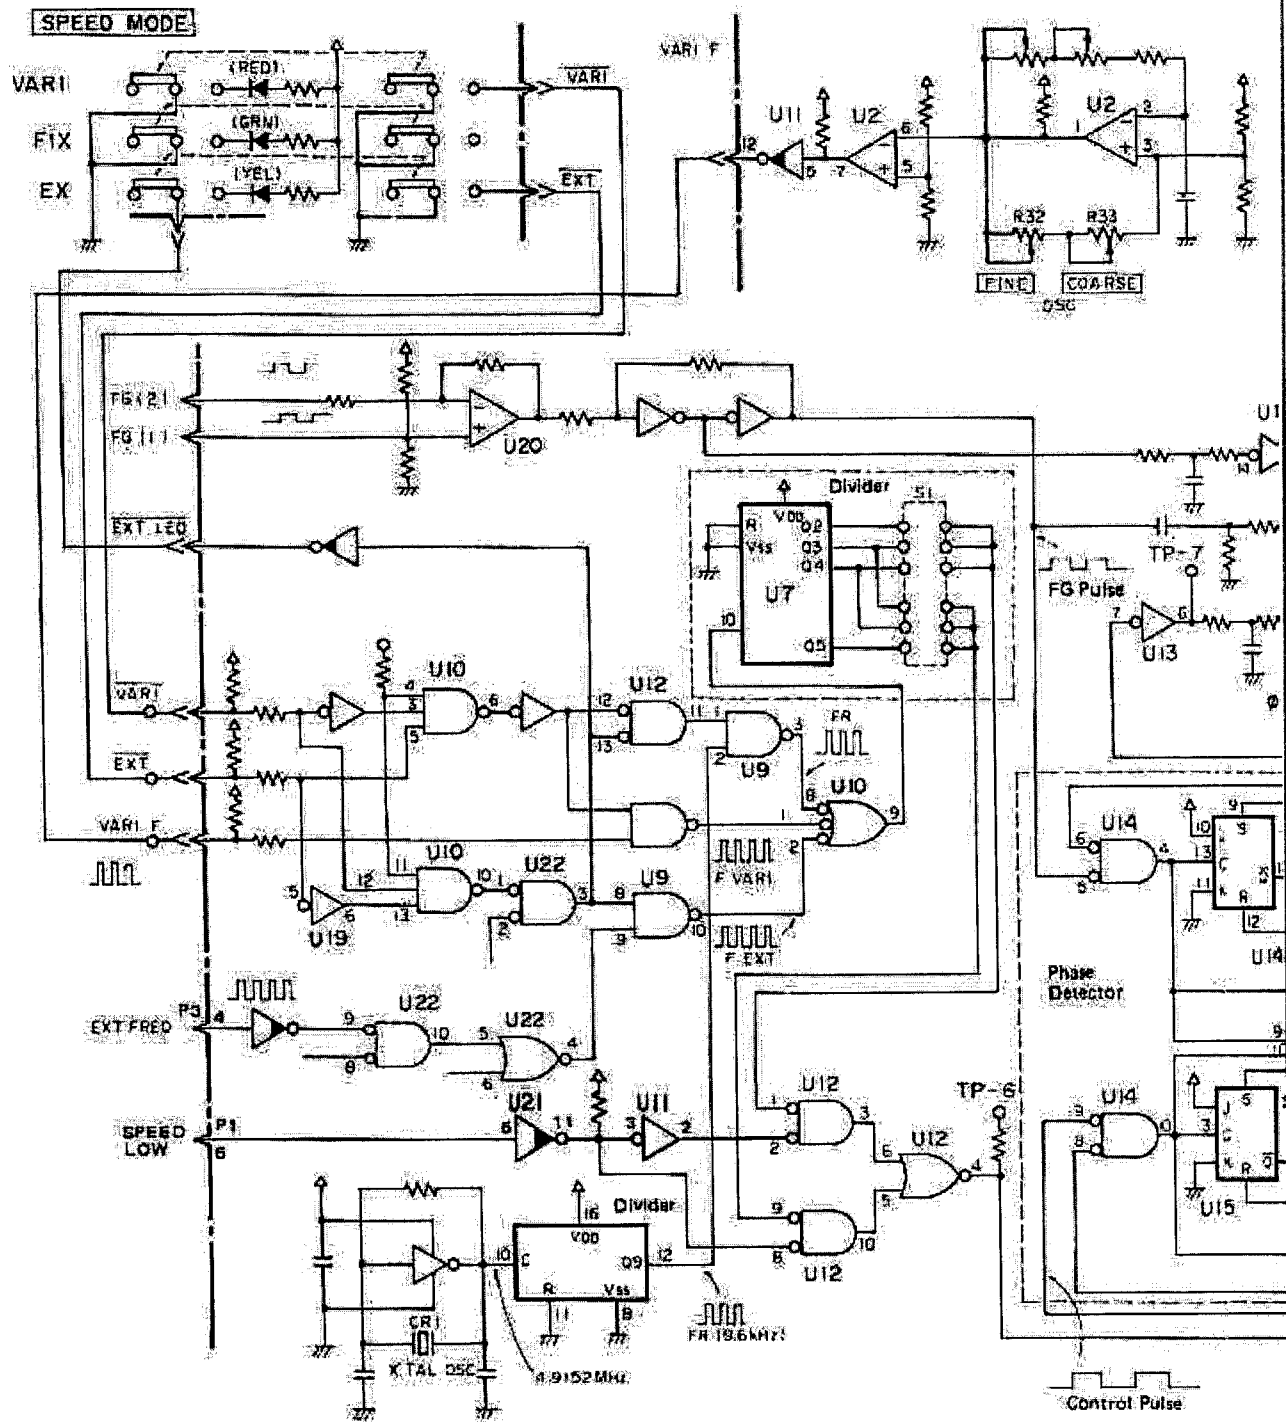

Fig. 8-7-8. Capstan Motor
1. When the speed mode switch on the pitch control display PC board is set to the VARI, FIX or EXT positions, the selected circuit becomes L (Refer to Fig. 8-7-8).